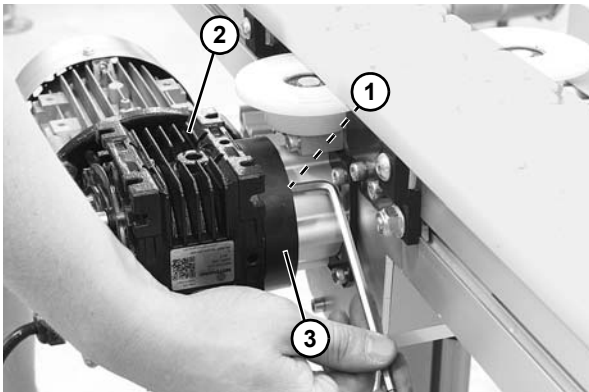

Figure 137
1. Remove four socket head screws (Figure 137, item 1). Remove drive package (Figure 137, item 2) from drive motor mounting bracket (Figure 137, item 3).